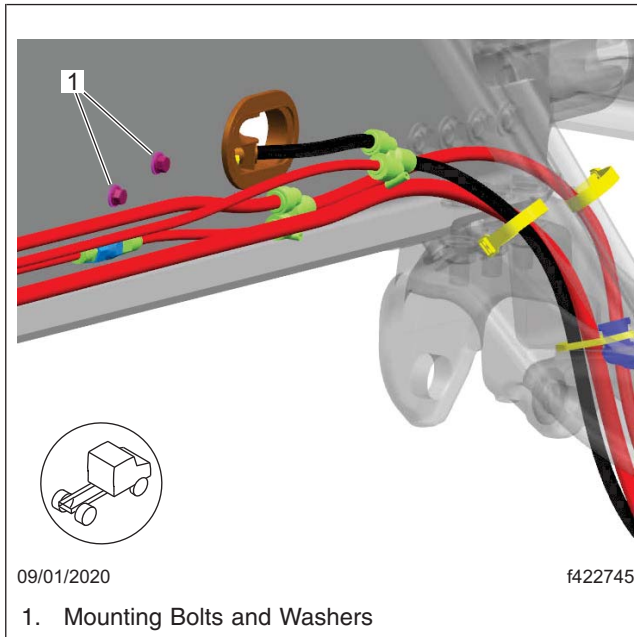
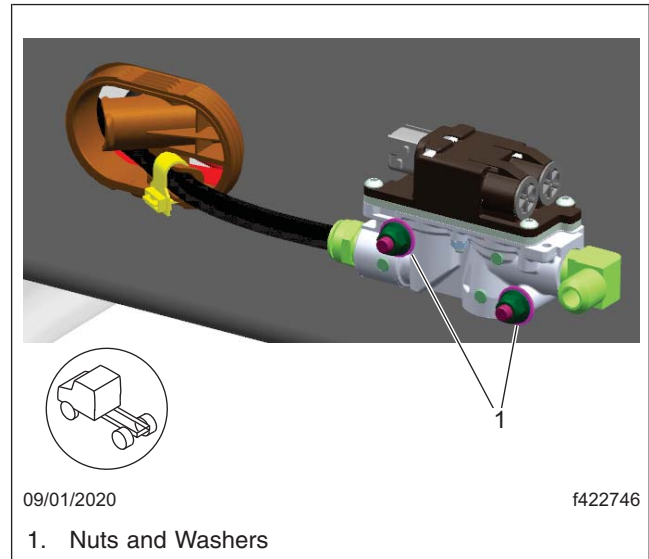

**Fig. 10, 25-FL958-000 Kit Components**
**Fig. 11, Installing the Spacers**
11. Use a 1/2-inch socket wrench along with the new bolts, spacers, and washers (supplied in the kit) to install the modulator on the vehicle. Tighten the bolts 11 lbf-ft (15 N·m). See Fig. 10, Fig. 11, Fig. 12, and Fig. 13.